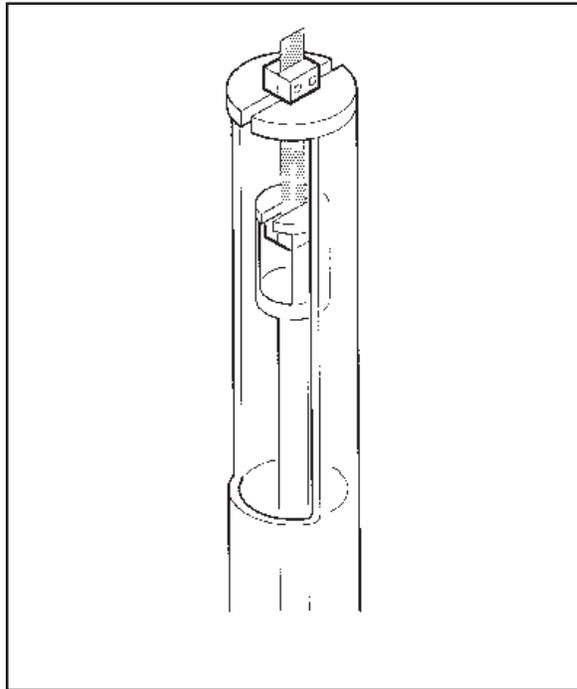

Figure 4.7
9. Position the second clamp below the slot in the film/fiber probe so that the film is suspended between the two clamps, as shown in Figure 4.7.